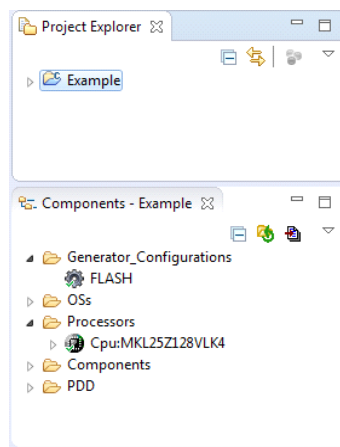

Figure 14. Project Explorer and Components Panels with Project Created
5. Figure 14 shows the **Projects Explorer** panel and the **Components** panel after the project has been successfully created. Before the project can be built and run, add the component (imported in Section 4.2.2, Importing an Example Project into Kinetis Design Studio, page 18) into the project. Section 4.3.1, Adding a MC34ValveController Component into the Project, page 22 outlines this procedure.